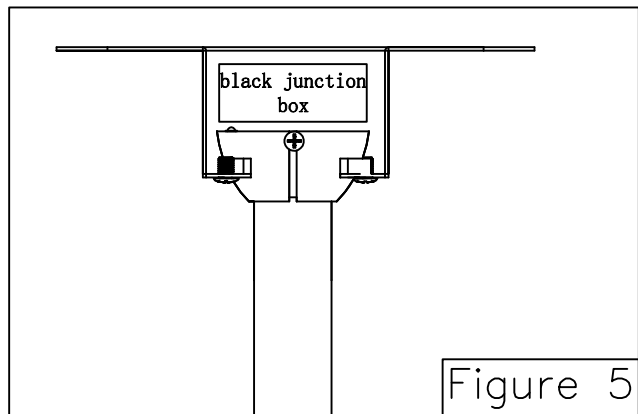

Figure 5
- Use bandage to extend into the wave filter mounting hole and the screw hole of the hanger bracket, and tighten bandage (for subsequent installation of the ceiling Canopy) . (Figure 5)